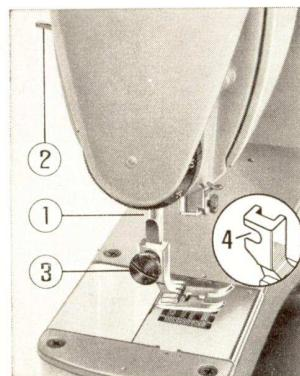

Fig. 11
The various presser feet, provided for certain kinds of work, are to be fastened to the cloth presser bar (1). To attach the feet, raise the presser bar by raising the presser foot lever (2). Loosen the presser foot thumb screw (3), choose the foot which is appropriate for the work to be done and place it, from the front, on the presser bar (the screw must go through the opening (4) of the foot). Tighten this screw, using the large screw driver, and make sure that the foot is securely attached to the presser bar. This operation is facilitated if the needle bar is in its highest position (Fig. 11).